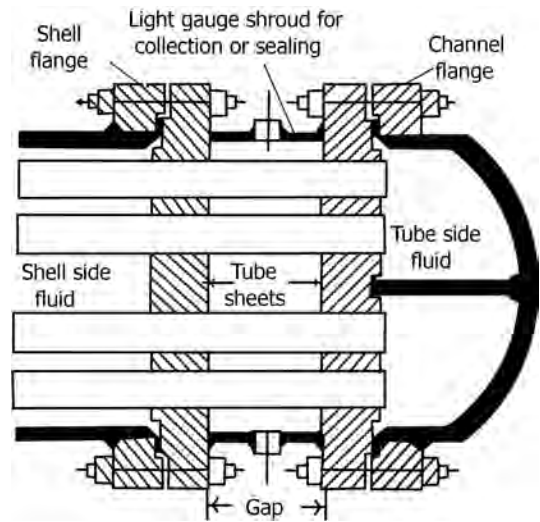

FIGURE 10.13 Double tube sheet design.
- If mixing of the shell side and tube side fluids cannot be tolerated, the double tube sheet design, shown in Figure 10.13, is used for extra protection. Because